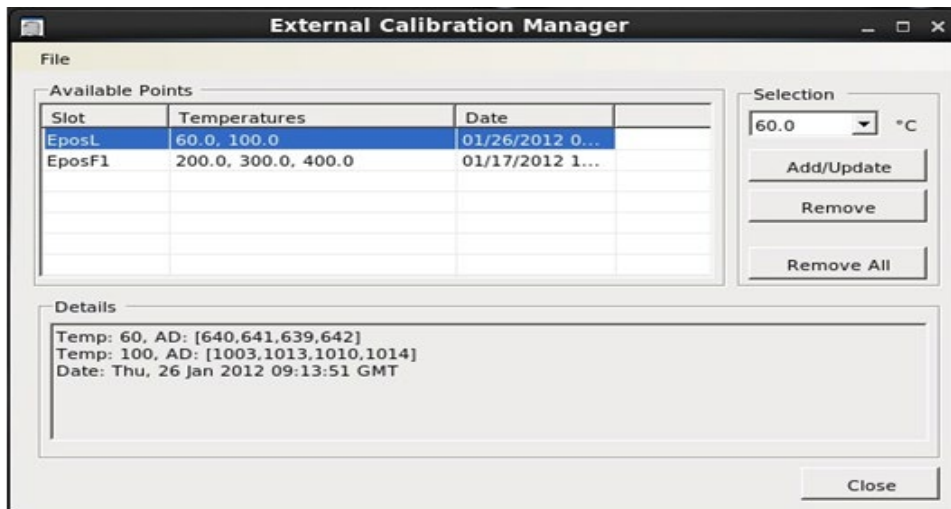

Figure 2 - "External Calibration Manager" dialogue window
This opens the "External Calibration Manager" dialogue window (see Figure 2)
2.3 In the list of "Available Points" select the measuring system (EPOS unit) for which you will be performing calibration. See Figure 2.